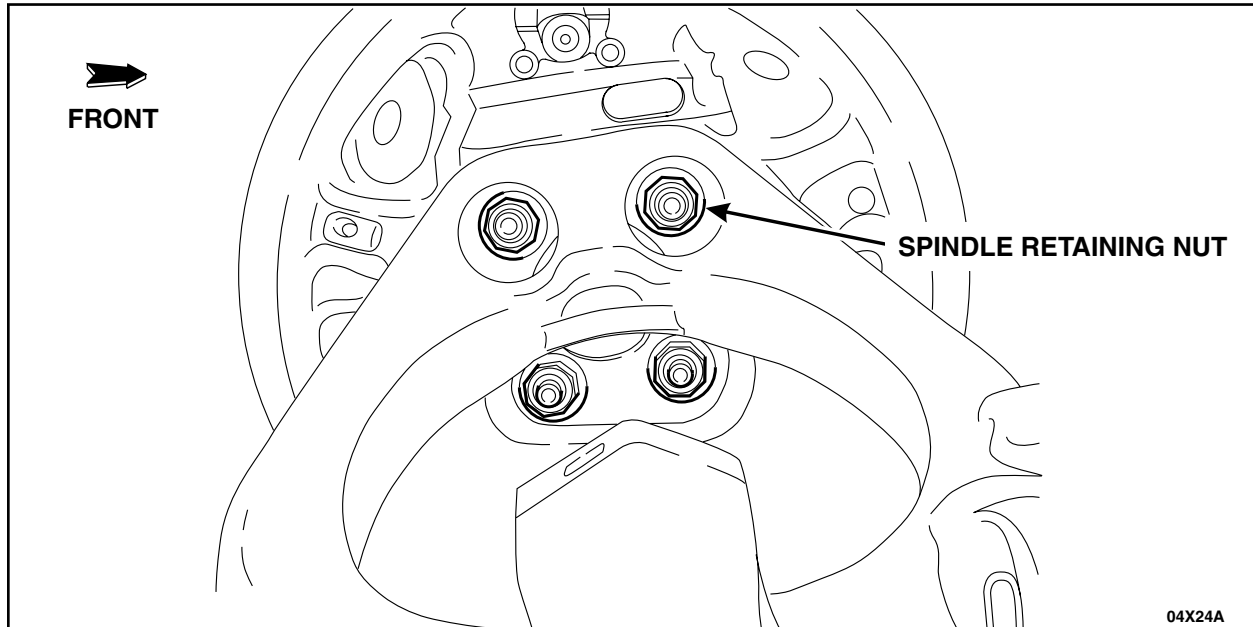

FIGURE 6
7. Remove the four spindle retaining nuts. *See Figure 6.*
15. Install the four spindle retaining nuts. *See Figure 6.*